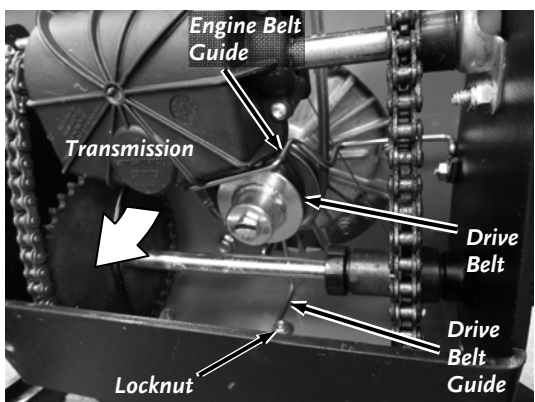

Figure 31
6. Loosen the Drive Belt Guide Locknut at the rear of the Frame using a 7/16" Wrench and rotate the Guide out of the way (Figure 31).